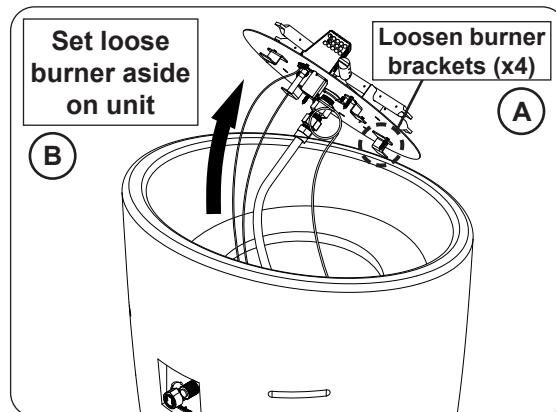

Fig. 19-3 Gain access to interior of unit (if needed)
For models without a storage door, use a  $\frac{5}{16}$ " nut driver to loosen the 4 screws found on the burner assembly (see Fig. 19-3, A).
3. Carefully lift out the burner just enough to set it off to the side (see Fig. 19-3, B).